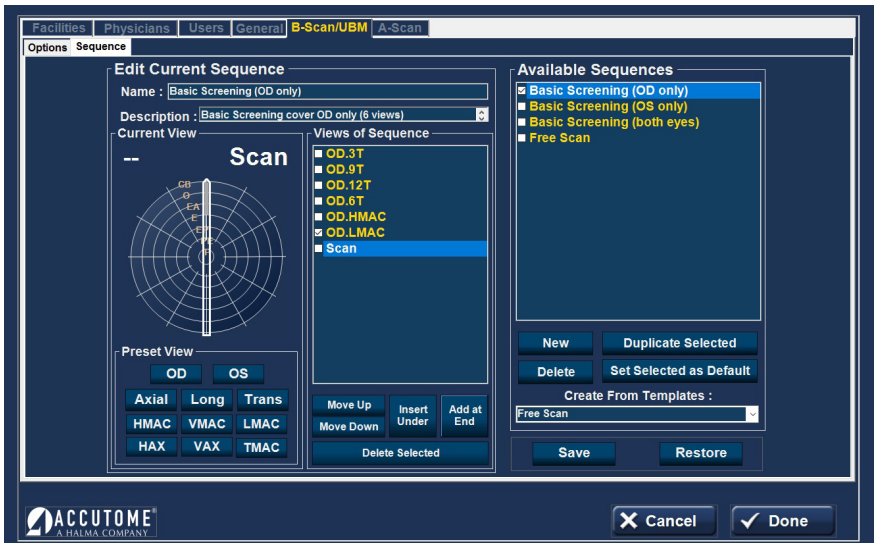

Figure 7.4 - Setup: B-Scan/UBM – Sequence – New Sequence Scan Added
Probe positioning for a scan is illustrated graphically by a wheel, representing the hours of the clock. There is an indicator with an arrow at one end that indicates the position and that can be dragged to edit the probe position. When you initially select the position wheel to edit the current view, the first scan defaults to the 12AX [Axial] probe position, with 12 being the 12:00 position as shown in figure 7.4.
2. The newly added sequence scan will display as Scan as shown in Figure 7.4.